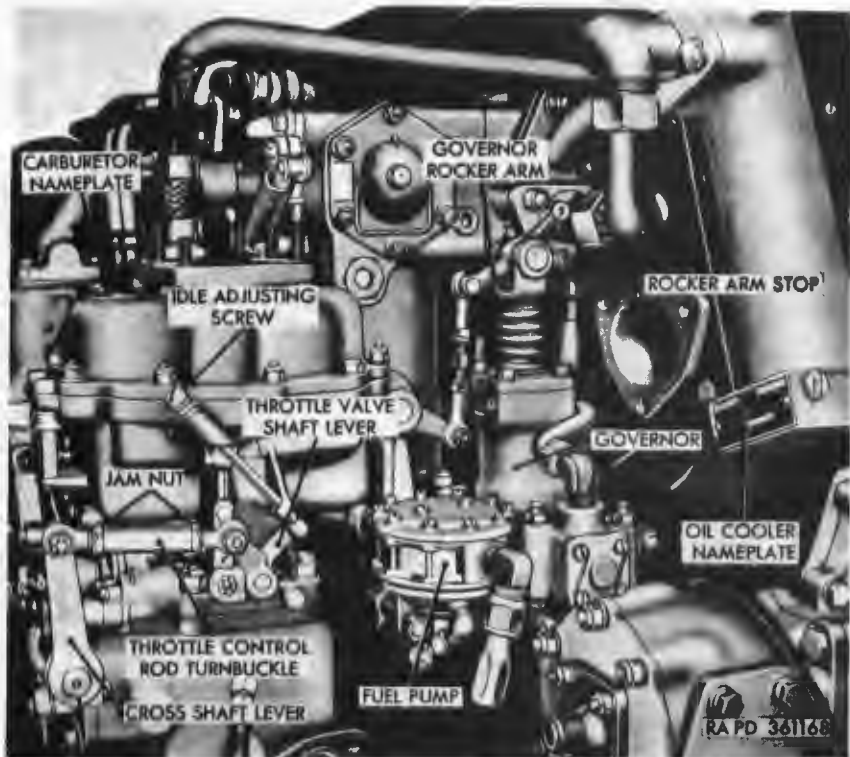

Figure 123. Carburetor, fuel pump, and governor.
- (4) *Fuel pump.* The mechanical type fuel pump (fig. 123) is actuated by an engine-driven eccentric cam and is mounted on the accessory end of the engine behind the right carburetor.
- (7) *Governor.* The mechanical-hydraulic type governor (fig. 123) is mounted on the accessory case directly behind the right carburetor. The governor consists of a fly-ball and race-type mechanical governor which actuates a pilot valve, which in turn controls an oil pressure system. The oil pressure is supplied from the main oil gallery of the engine, and produces the amplified energy required to actuate the governor-to-carburetor control linkage. The pilot valve moves back and forth over oil passage orifices, as governed by the fly-ball system, thereby allowing oil pressures to be increased or decreased in the hydraulic system, controlling the maximum engine rpm between 2,800 rpm (full load speed) and 2,950 rpm (no-load) speed.